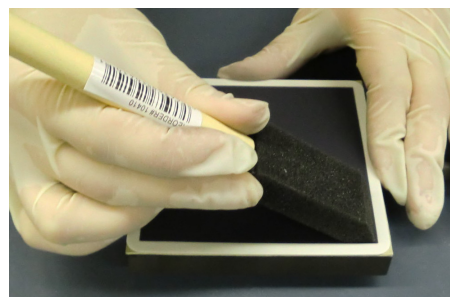

Figure 14
7. Lightly holding the cell in place, evenly apply approximately 5 grams of LSM ink to the cathode active area (Figure 14).